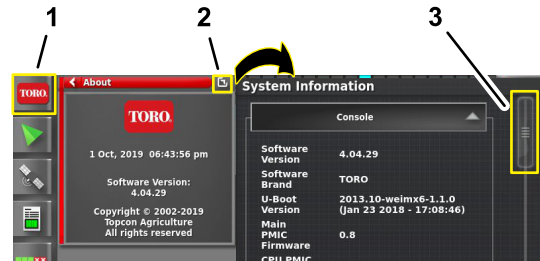

Figure 121
1. Press the SYSTEM INFORMATION icon, and then swipe the FULL SCREEN icon in the upper right corner of the system information window (Figure 121).